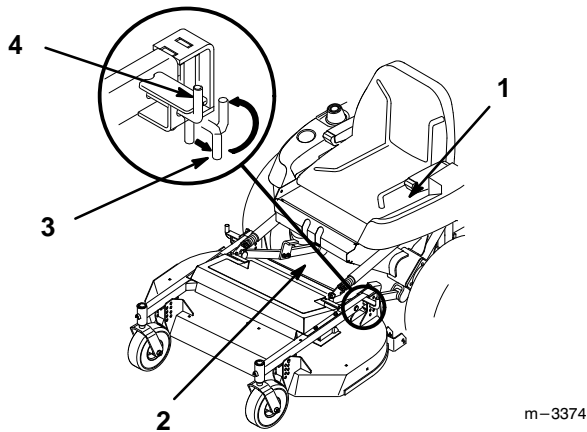
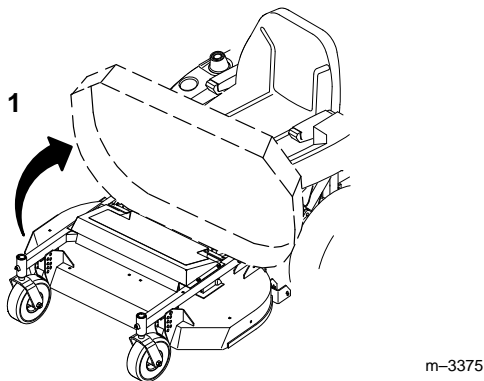

Figure 23
Figure 24
1. Turn engine off, set the parking brake and check that PTO cover is down against footrest (Fig. 23).
3. Lift on side of the mower to release weight on latch pin and pull out on latch pin to release (Fig. 23). Lower rear of mower onto anti-scalp rollers. Repeat on the other side.
1. Pull out latch pins and rotate into notch, holding in the open position (Fig. 23). Standing in front of the mower, pull forward on the front and lower mower (Fig. 24).
2. Rotate latch pins into released position and lift up on side of the mower until latch pin engages (Fig. 23). Repeat on the other side.
4. Standing in front of the mower, lift up and push rearward on front to raise mower (Fig. 24). Raise mower until it contacts stops and latch pins snap into locked position.